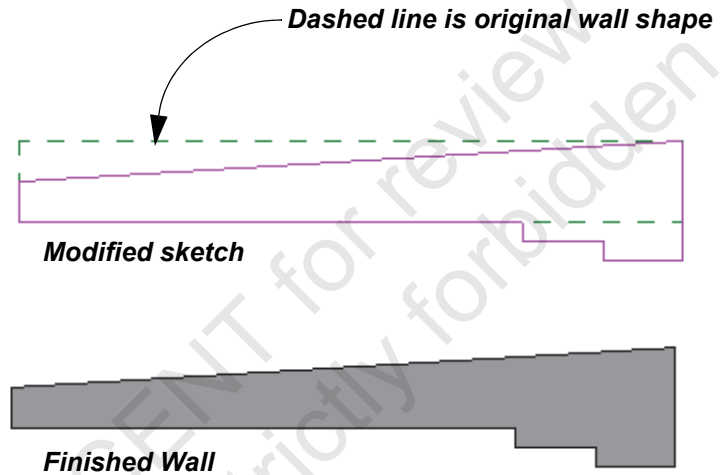

Figure 1–63
5. Once the profile is complete, click  (Finish Edit Mode). The footing now follows the new profile, as shown on the bottom in Figure 1–63.